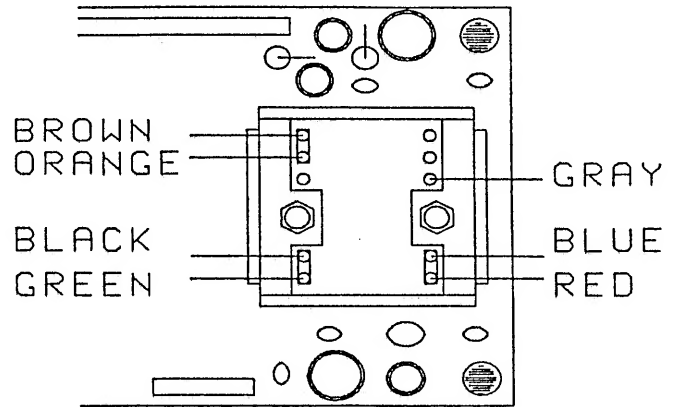

FIGURE 4
12. Insert the wires from the new audio amplifier circuit board as shown in the diagram. Make sure the pins are firmly seated and then solder them into place. FIGURE 4